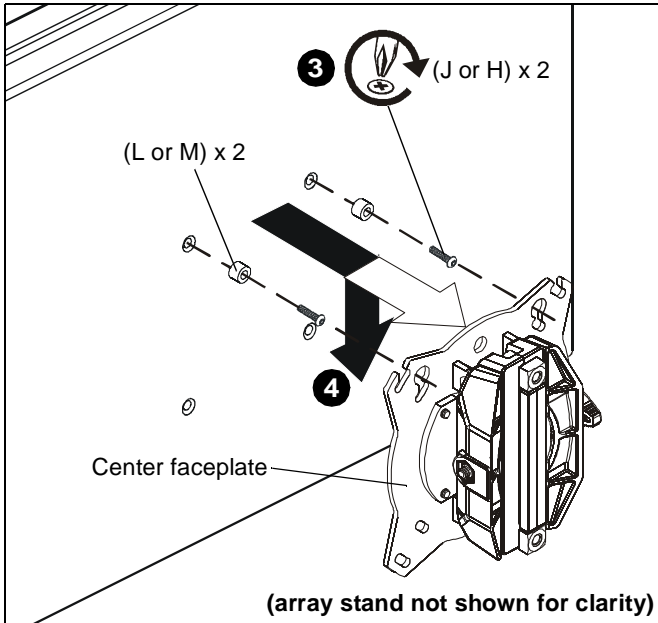

Figure 14
- Using Phillips screwdriver, carefully install two selected screws (J or H) through selected spacers (L or M) into the *upper* mounting holes on the display. Thread screws completely into display, then back out 3 complete turns. (See Figure 14)
- Pick up and align display so that screws (K) (installed on the back of the display in the previous step) fit into the mounting holes on the faceplate. Lower the display firmly into place. (See Figure 14)